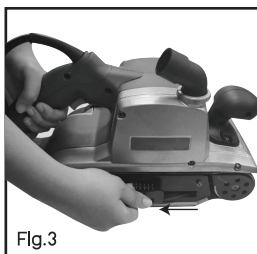

Fig.3
4. CHANGING A SANDING BELT SANDER (See Fig. 3, 4)